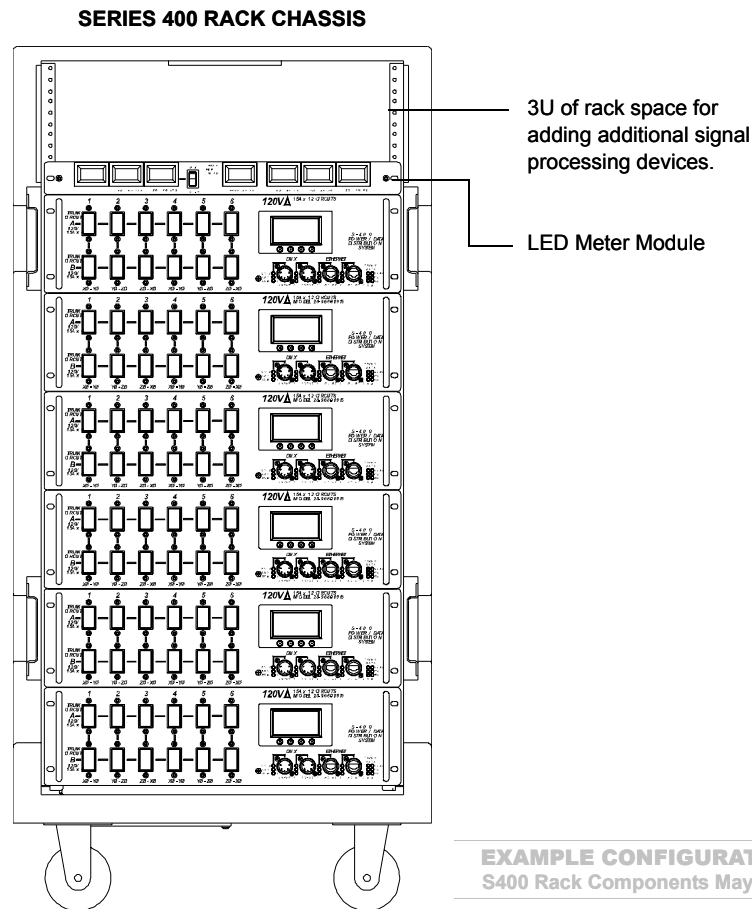

Figure 7: Series 400 Rack
- Step 1. Install Ethernet Switch as required in top portion of rack chassis (**Figure 7**).